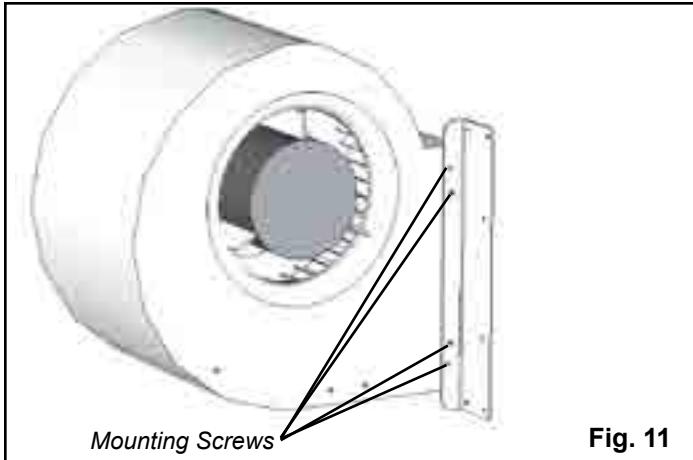
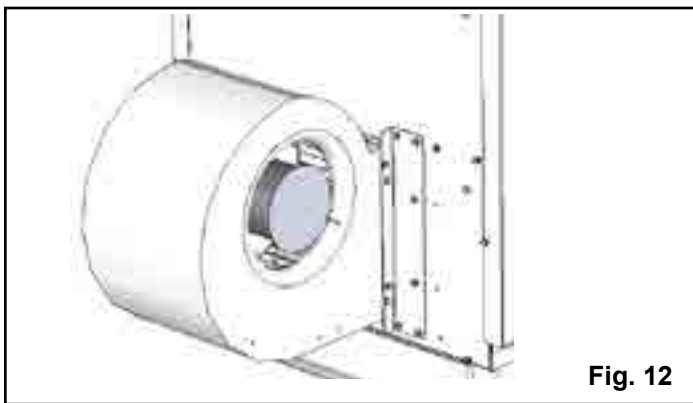

Fig. 11
Fig. 12
Install the blower mounting brackets on the blower as shown in Fig. 11.
1. Install (4) Tek screws on each side where shown in Fig. 11. Start with the two center screws.
**NOTE:** There are two small holes in the discharge end of the blower that match the two center holes on the small angle of the blower bracket. The two (2) outer holes are drilled by the Tek screws.
2. Mount blower with brackets installed on the furnace as shown in Fig. 12. Each side will require 6 Tek screws.